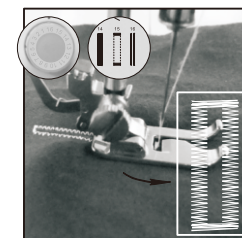

Fig.19
- (6) Choose the 16th stitch, then turn on switch and sew till buttonhole is fully sewed. (Fig. 19).